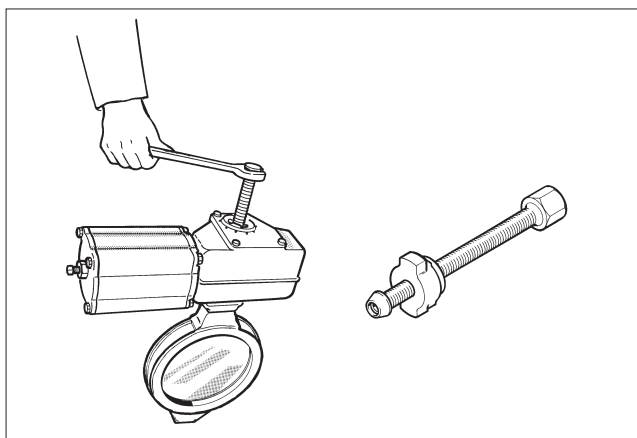

Fig. 19 Removing the actuator with an extractor
- Detach the actuator using a suitable extractor. The correct tool can be ordered from the manufacturer (see Fig. 19).